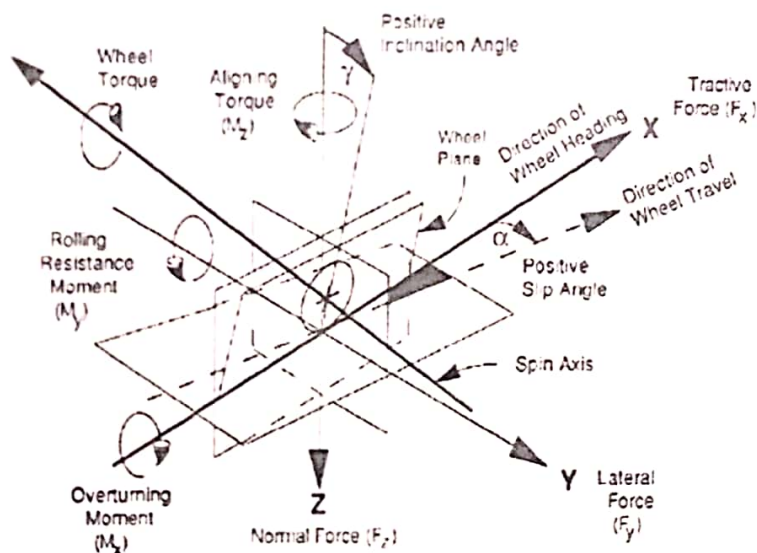

Figure 4
- Using the sketch in Figure 4 above, explain the significance of any four key fundamental parameters used in vehicle dynamics